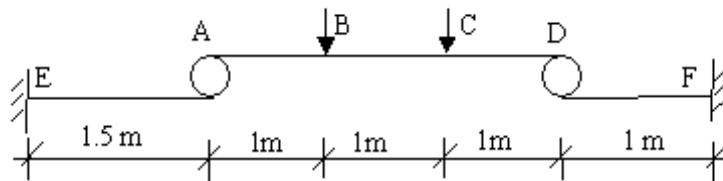

Figure 3:
3. Calculate deflections at points A, B, C and D of the combination of beams shown in figure 3 below, using Castigliano's theorem. Assume $I = 0.4m^4$ and $E = 200$ GPa for all the beams. Load applied is 'P' at B and '2P' at C. [16]